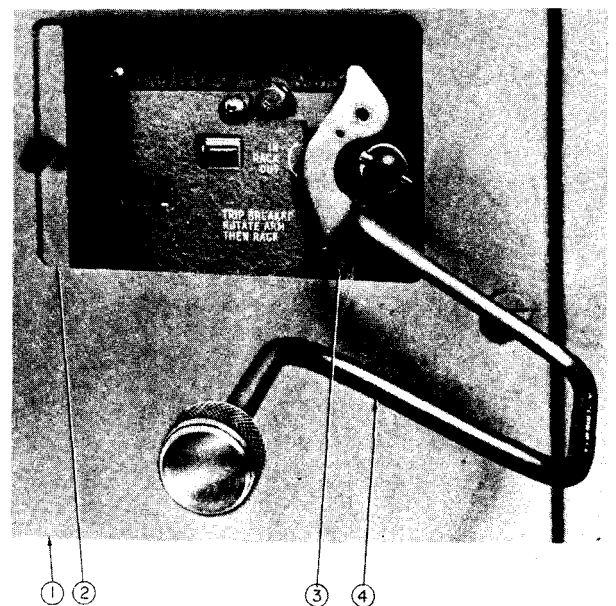

Fig. 3 — Method of Racking Circuit Breaker
2. Engage racking crank (4, Figure 3) and push racking unlocking lever (3) to left, then rotate racking crank counterclockwise only until resistance to motion is felt. (DO NOT FORCE.) (If closing springs were left in charged condition, they will automatically discharge.)
5. To rack circuit breaker to "TEST" position, push racking unlocking lever (3, Figure 3) to left,
FOR SAFETY: When racking circuit breaker to "CONNECTED" position, close compartment door (1, Figure 3) and insert racking crank (4, Figure 3) through sliding panel (2, Figure 3).
Section 4. CIRCUIT BREAKER REMOVAL (See Figure 3)